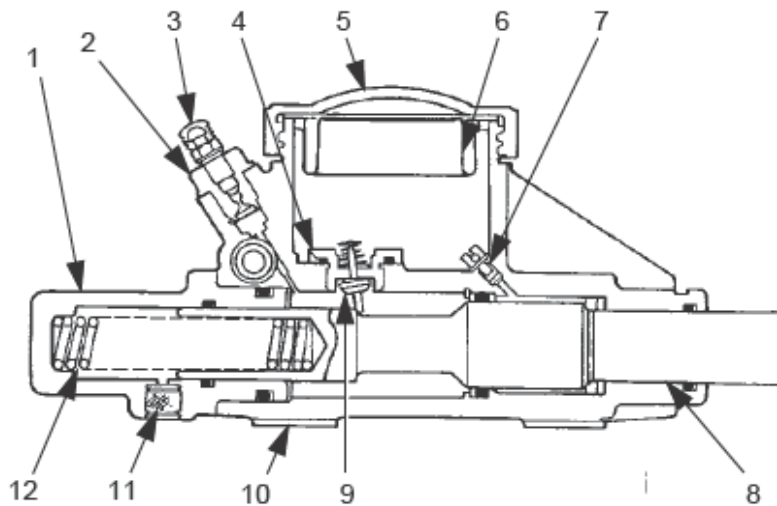
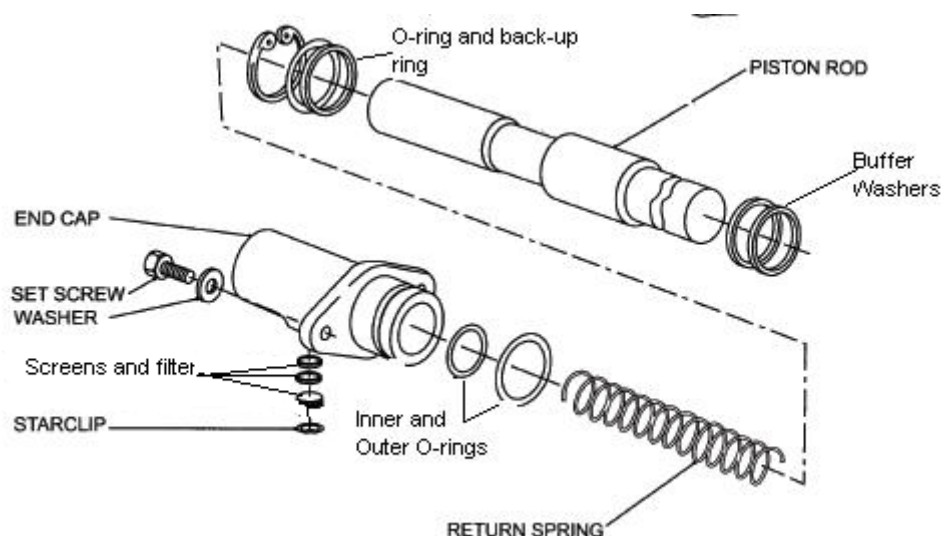

Figure 5 Brake Master Cylinder – Sectional View
Figure 6 Master Cylinder Exploded View
30. **Disassembly.** Using Figure 5 and Figure 6 as a reference, disassemble the master cylinder as follows:
- a. Remove the weather cap, reservoir cap (Figure 5, Item 5) and moisture seal (Figure 5, Item 6). Discard any residual brake fluid.
- e. Remove the bleed nipple (Figure 5, Item 3) and housing (Figure 5, Item 2) from the body.
- f. Remove the compensating valve nut (Figure 5, Item 4) with compensating valve (Figure 5, Item 9) from the base of the reservoir.
- g. Remove the equalising valve (Figure 5, Item 7) from the base of the reservoir.
- h. Remove the two bolts with spring washers securing the end-cap (Figure 5, Item 1) to the housing. Then remove the end-cap and the piston return spring (Figure 5, Item 12).
- j. Slide the piston (Figure 5, Item 8) out of the body.
Table 2 Annotation to Figure 5
- 32. Reassembly.** Reassemble the master cylinder as follows (Figure 5 and Figure 6):
- d. Slide the piston (Figure 5, Item 8), with the open end facing backwards, into the body from the rear.
- e. Install the inner and outer O-rings on the end-cap (Figure 5, Item 1).
- f. Fit the piston return spring (Figure 5, Item 12) and end-cap. Secure the end-cap to the housing with the two bolts fitted with spring washers. Torque the bolts to 34 N.m.
- g. Install the equalising valve (Figure 5, Item 7) in the base of the reservoir. Torque the valve nut to 3 N.m.
- h. Install the compensating valve (Figure 5, Item 9) and compensating valve nut (Figure 5, Item 4) into the base of the reservoir. Torque the valve nut to 82 – 95 N.m.
- l. Top up the cylinder reservoir and install the moisture seal (Figure 5, Item 6), reservoir cap (Figure 5, Item 5) and weather cap. Seal the cylinder outlet port with a plastic plug.